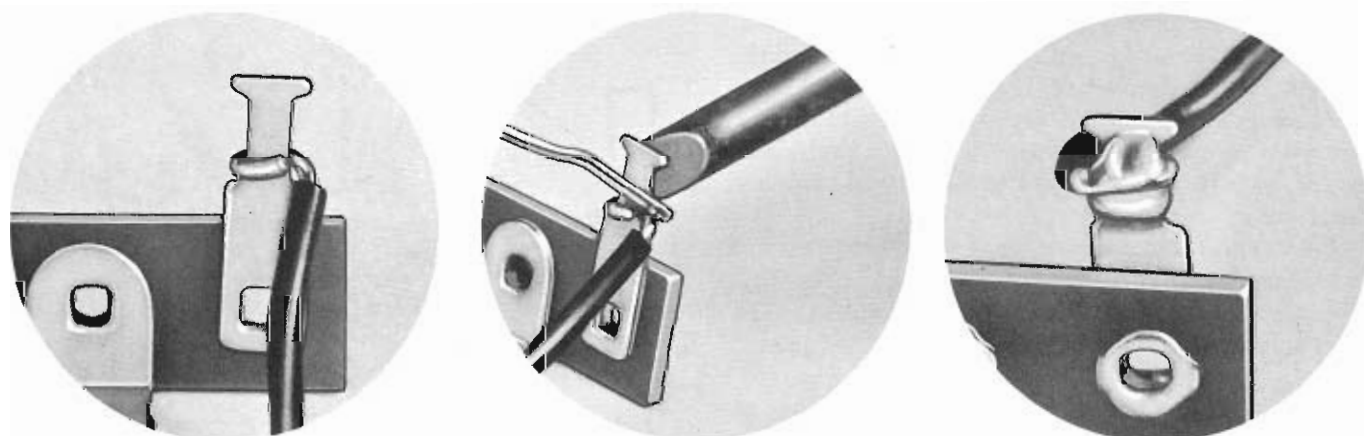

FIGURE 2
**Here's how to solder joints correctly (see Fig. 2):**